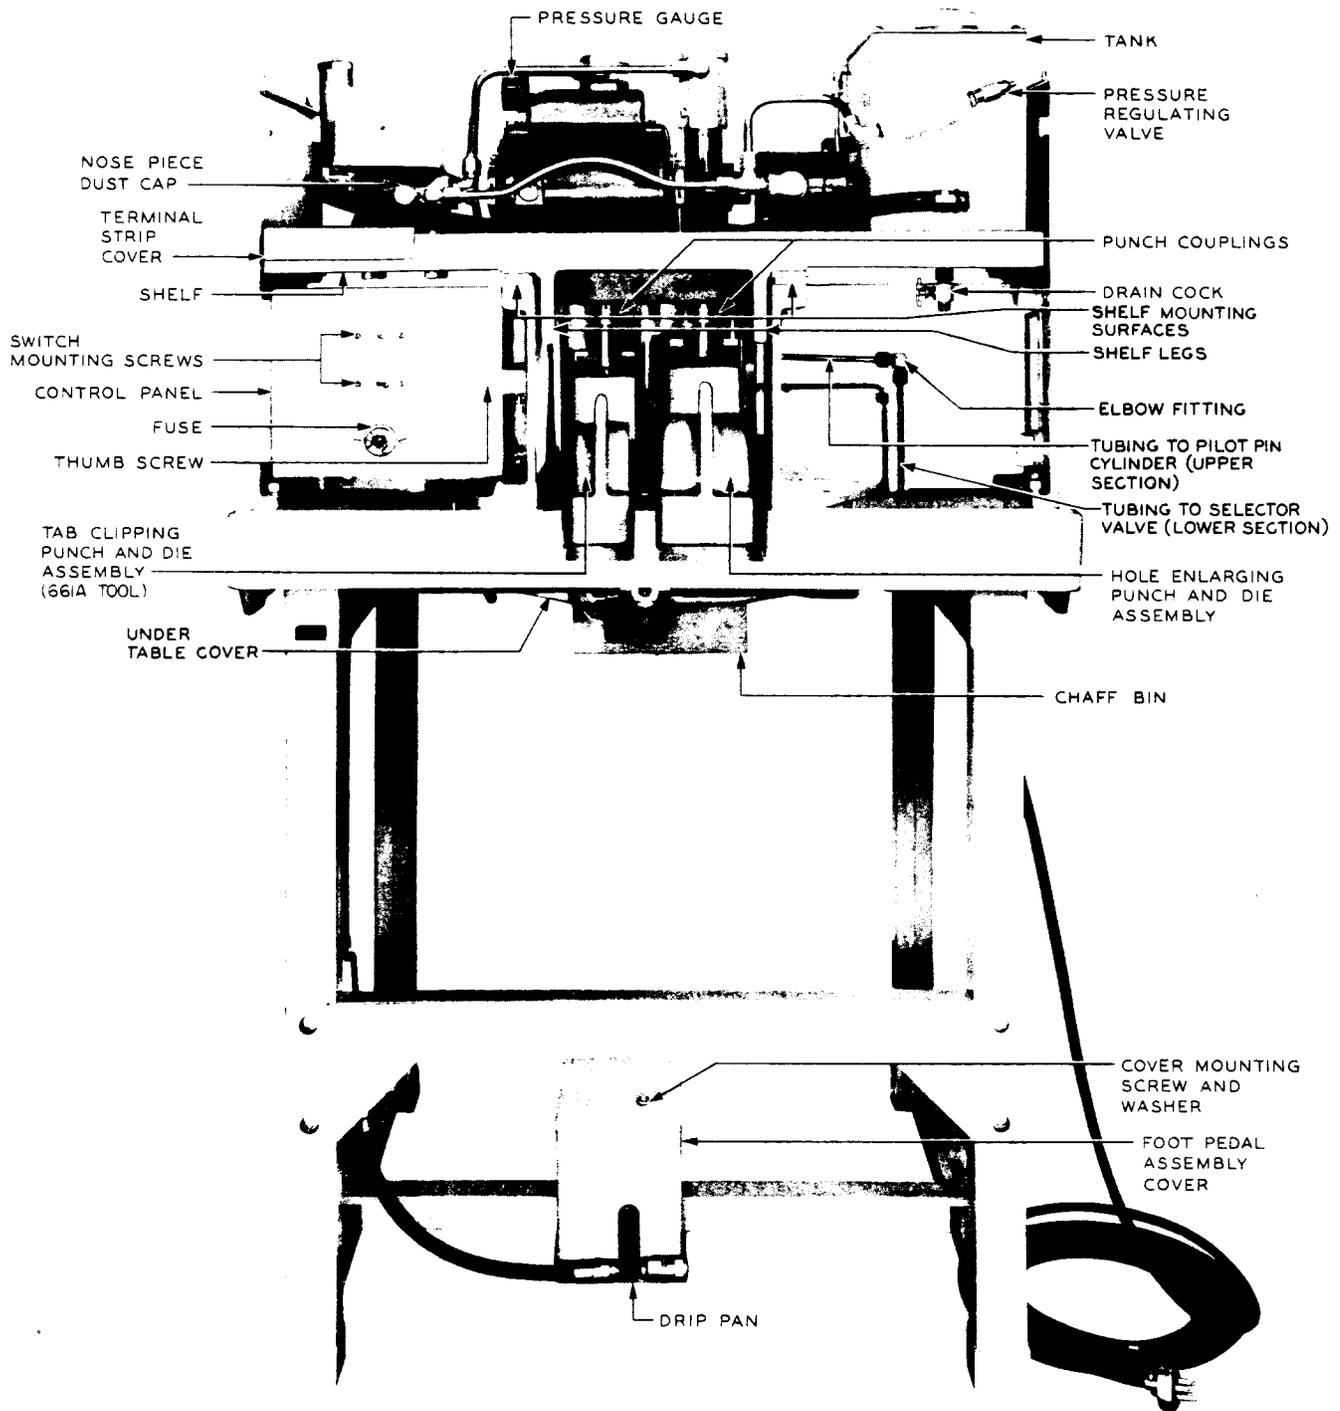

Fig. 17 - 659A and 659D Tools (rear view — covers removed)
3.11 Foot-Pedal Assembly Drip Pan (659A and 659D tools only): Fig. 17 — To replace the foot-pedal assembly drip pan, remove the mounting screws using the 3-inch C screwdriver. Mount the new drip pan and securely tighten all screws.
3.12 Foot-Pedal Assembly Cover (659A and 659D tools only): Fig. 17 — To replace the foot-pedal assembly cover, remove the drip pan using the 3-inch C screwdriver. Then, remove the mounting screw and washer at the top of the cover using the proper size Allen wrench. Remove the cover. Mount the new cover and securely tighten the mounting screw making sure the washer is in place. Mount the drip pan and securely tighten all screws.
3.14 Chaff Bin: Fig. 17 — To replace the chaff bin, remove the wing nut at the bottom of the bin and remove the bin. Mount the new bin with the opening in the long side of the bin facing the front of the tool. Remount and securely tighten the wing nut.
(1) Remove the punch guard and chaff bin as covered in 3.13 and 3.14. Then lock the tool. Loosen the locknut above the punch coupling (Fig. 17) with the R-2895 wrench while holding the coupling stationary with a second R-2895 wrench. Turn the punch coupling so that the open end of the slot in the coupling faces the rear of the tool.
3.17 Punch Coupling and Locknut: Fig. 17 —